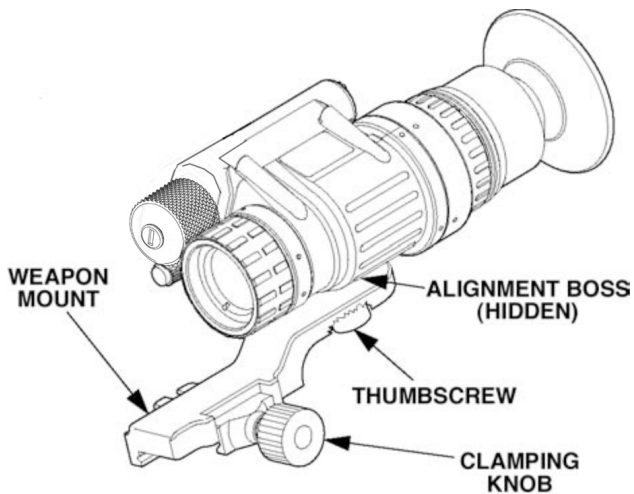

Figure 2-4 Weapon Mount Installation
1. Orient the monocular and weapon mount as shown in Figure 2-4. Be sure to align the alignment boss on the weapon mount with the alignment groove in the monocular.